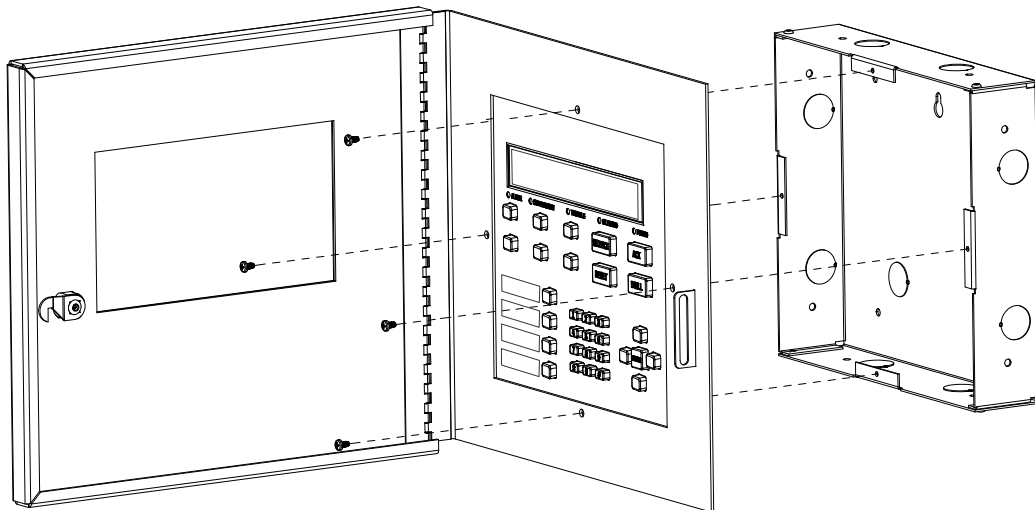

Figure 4.25 Attaching Annunciator / Door Assembly to Backbox
- Attach the door assembly to the backbox using the screws provided. Refer to Figure 4.25.